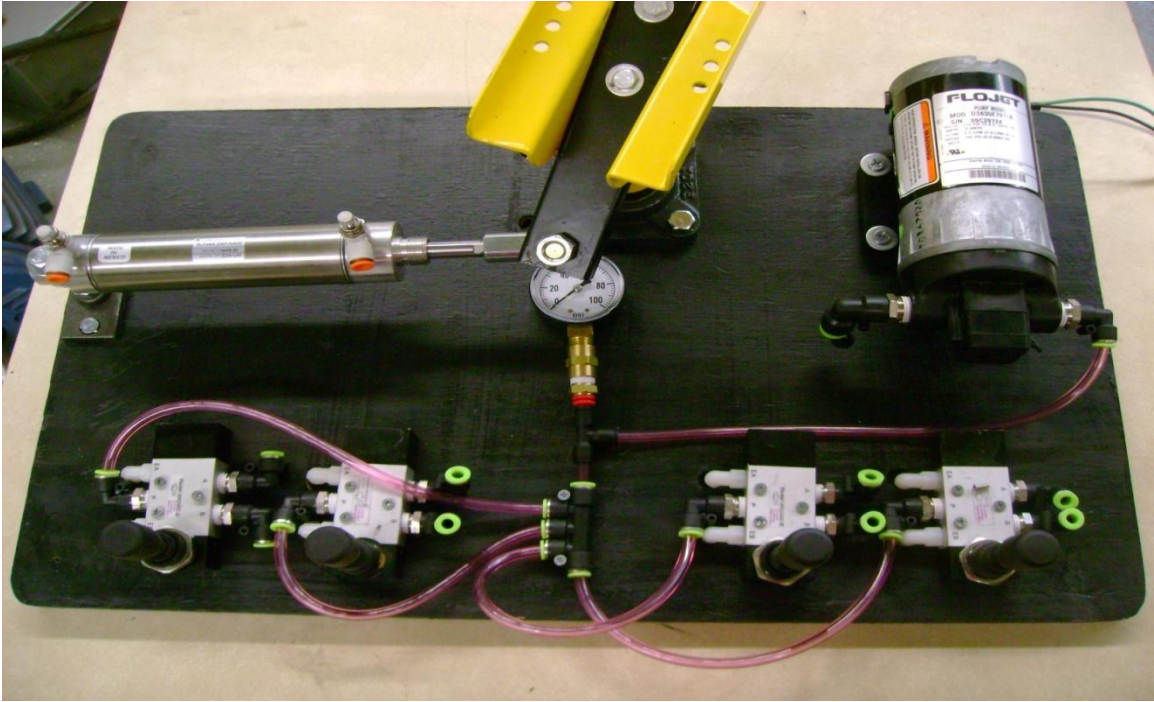

Figure 24: Final Board Assembly for Option 2
The valves can now be attached to the board using screws (27). For Option 2, the joystick can also be attached using the nut (57) and washer (48). The orientation of Option 2 can be seen in Figure 24 and Option 1 can be seen in Figure 25.